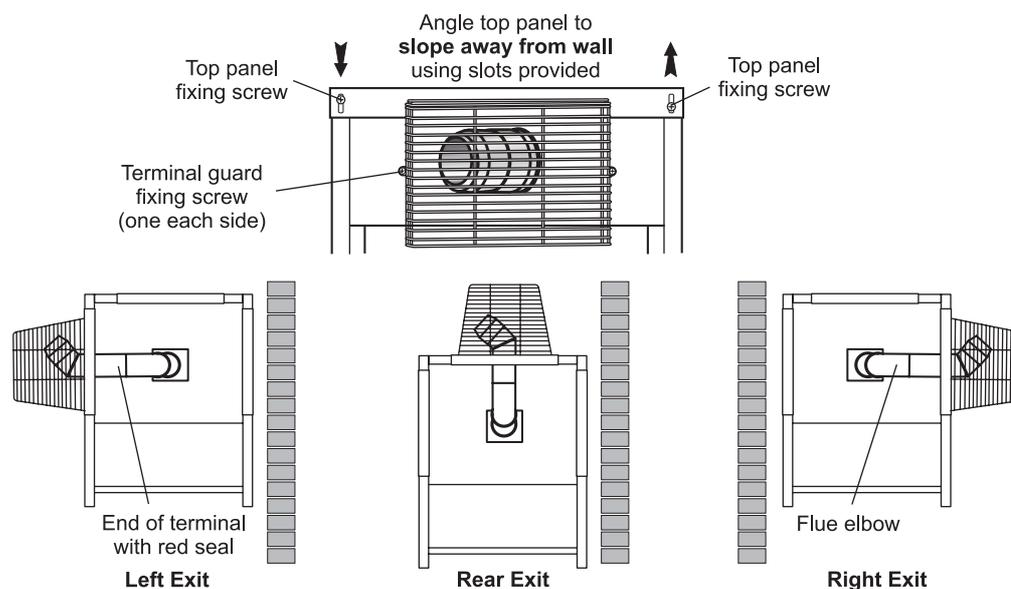

Fig. 15
- 9 The top panel of the casing has been designed so that it may be fitted to create a slight slope away from the side positioned against the wall. To tilt the top panel, loosen the four top panel casing screws, one at each corner and push down on the side furthest from the wall. Tighten the screws. See Fig. 15.
- 4 The top panel of the casing has been designed so that it may be fitted to create a slight slope away from the side positioned against the wall. To tilt the top panel, loosen the four top panel casing screws, one at each corner and push down on the side furthest from the wall. Tighten the screws. See Fig. 15.